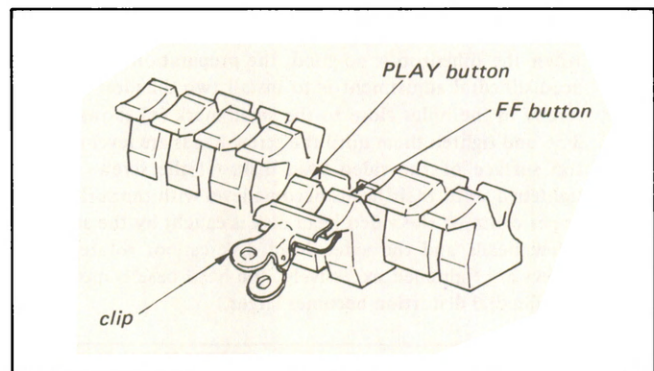

Fig. 3-59.
3. Push the PLAY key together with the FF key and clip these keys with a clip as shown in Fig. 3-59.